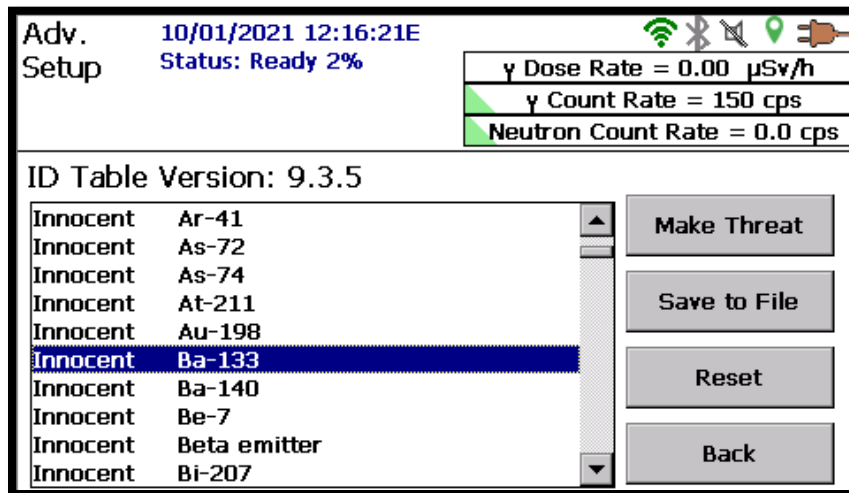
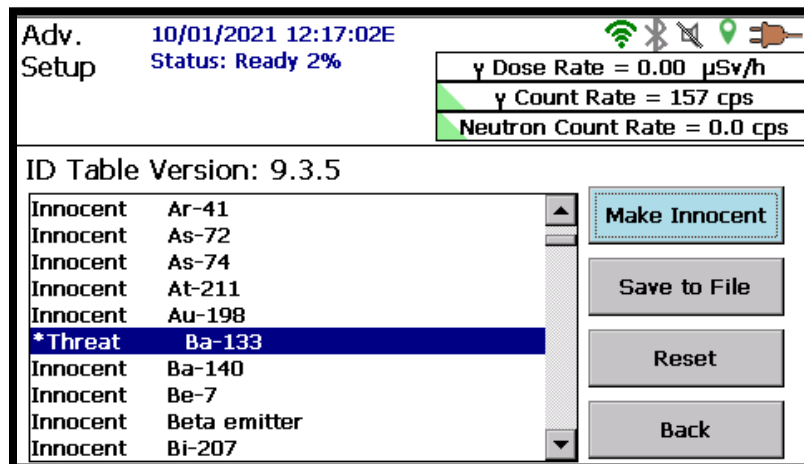

Figure 101. Preparing to Change Default Innocent Nuclide to Threat Status
Figure 102. Default Innocent Nuclide Changed to Threat Status (and Marked with Asterisk)
- To change an innocent nuclide to threat status, tap the scrollbar or use the up/down arrow buttons (▲▼) to move through the list, tap to highlight the desired nuclide (Figure 101), then tap the top-right button, which will be labeled **Make Threat** (the button will be disabled for default threat nuclides). An innocent nuclide that has been changed to threat status will be marked in the list with an asterisk (*), as shown in Figure 102.